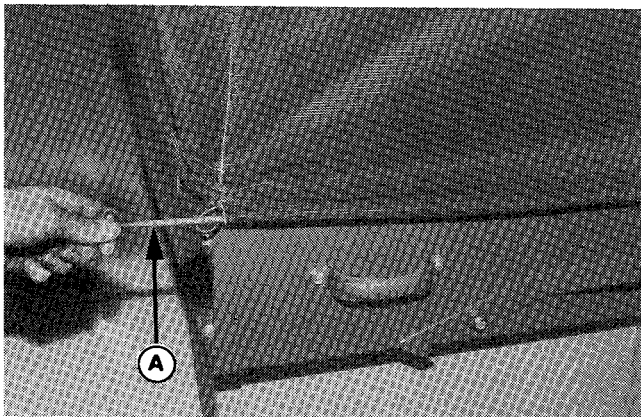

Figure 12.
- f. Thread the straight rod (A, figure 12) which has an eyelet on each end through the sleeve at the front of the cover.